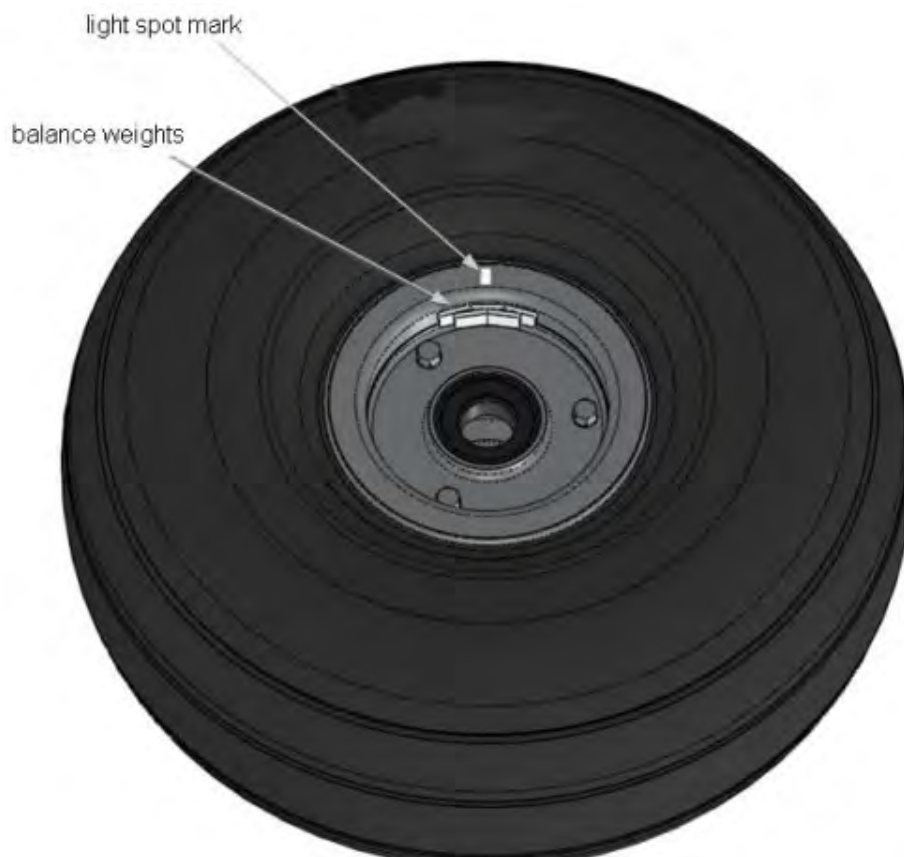

Figure 45 – Balanced Wheel/Tire Assembly
- 11) Form weights as much as possible to match contour of wheel, peel off backing, and adhere to wheel in location corresponding to light spot. Weights may be stacked on top of each other (as shown in Figure 2). 3M adhesive promoter (RM0012-101) should be used for best adhesion. Figure 45.